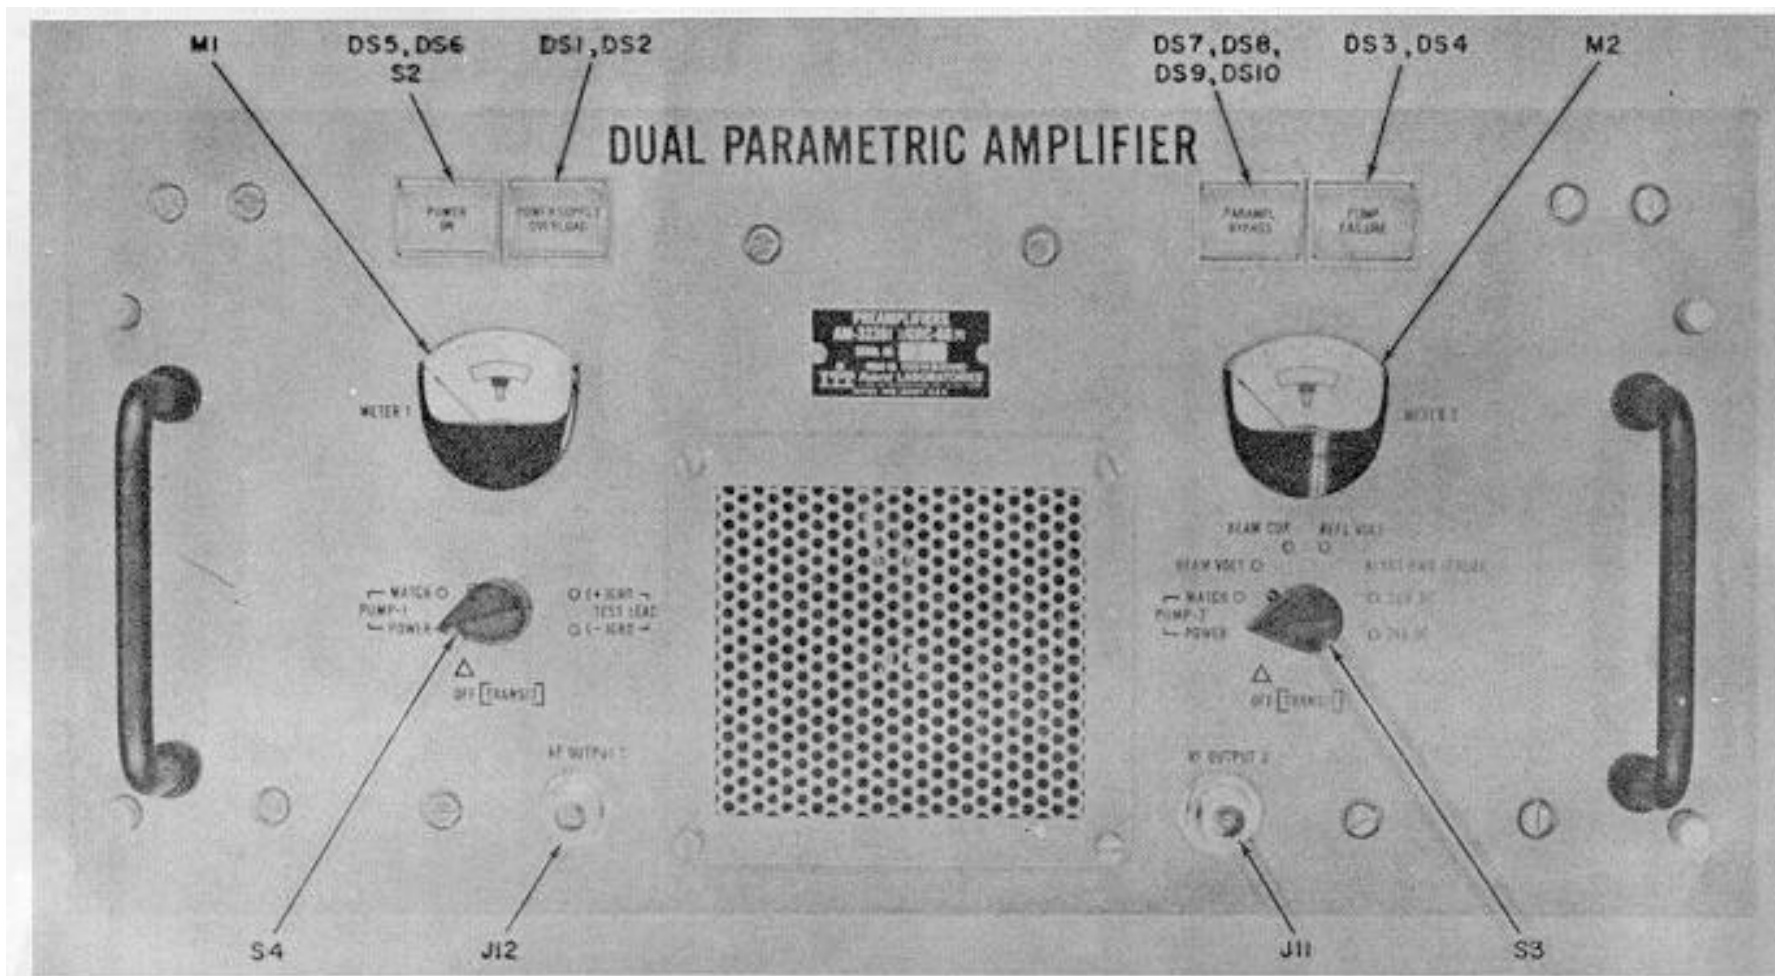
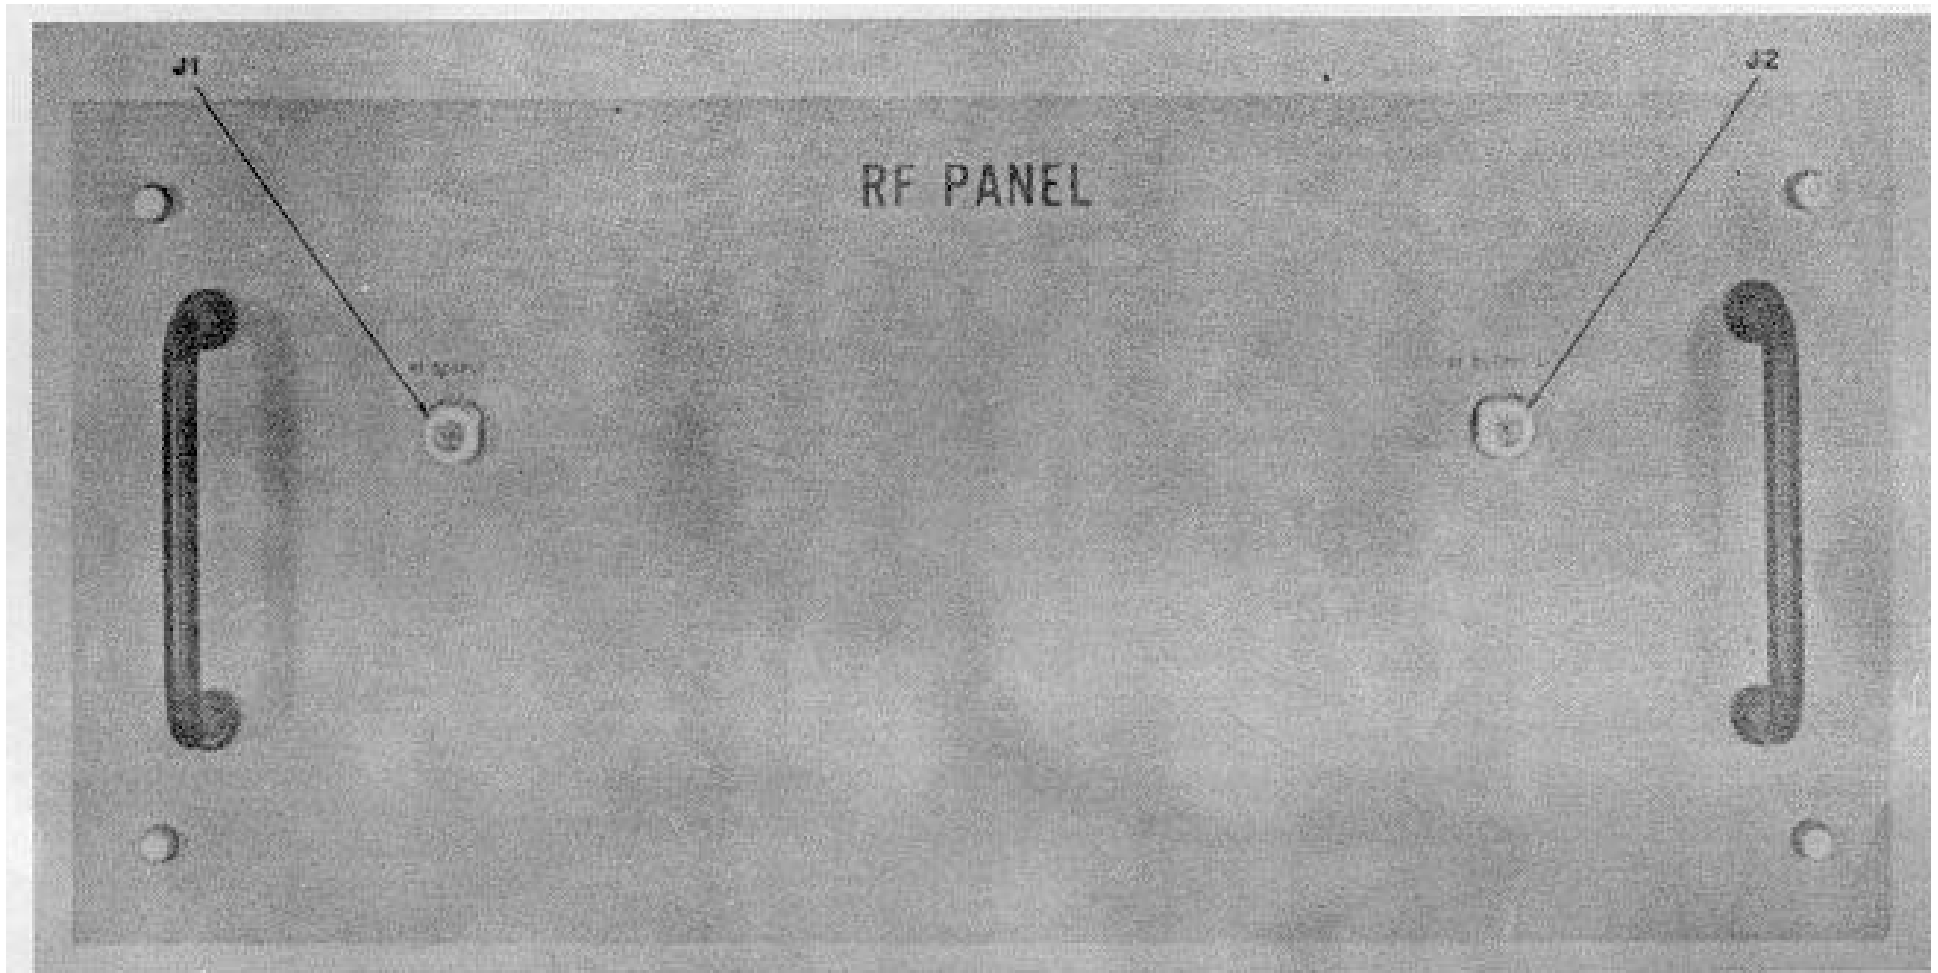
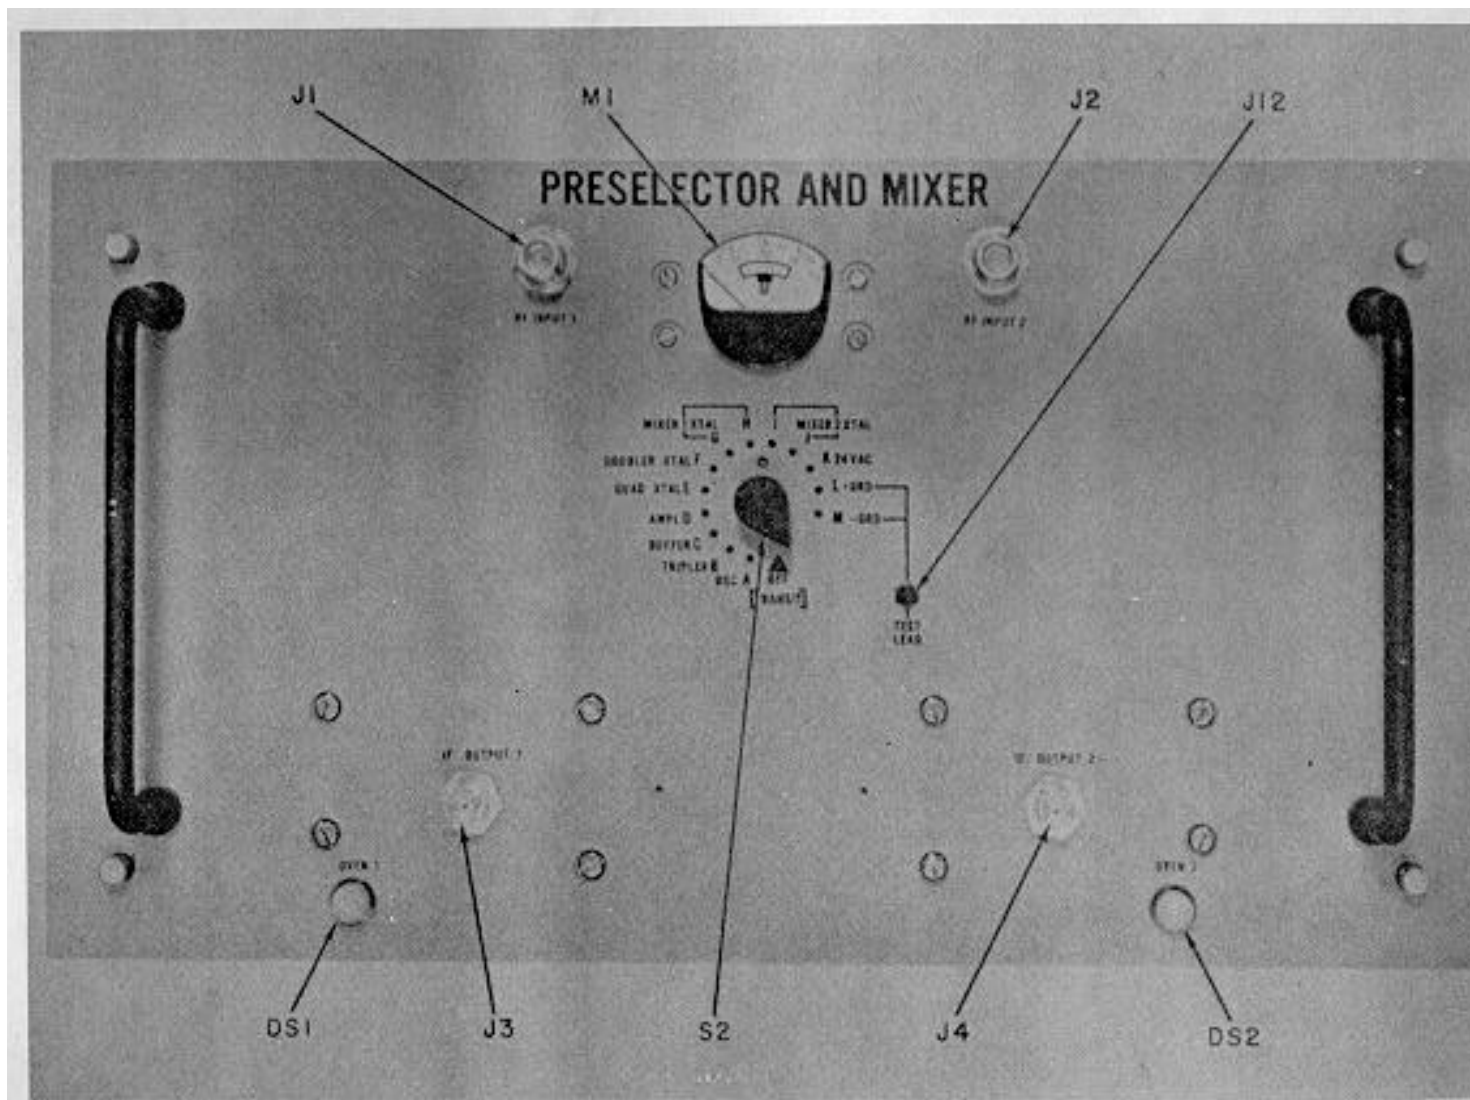
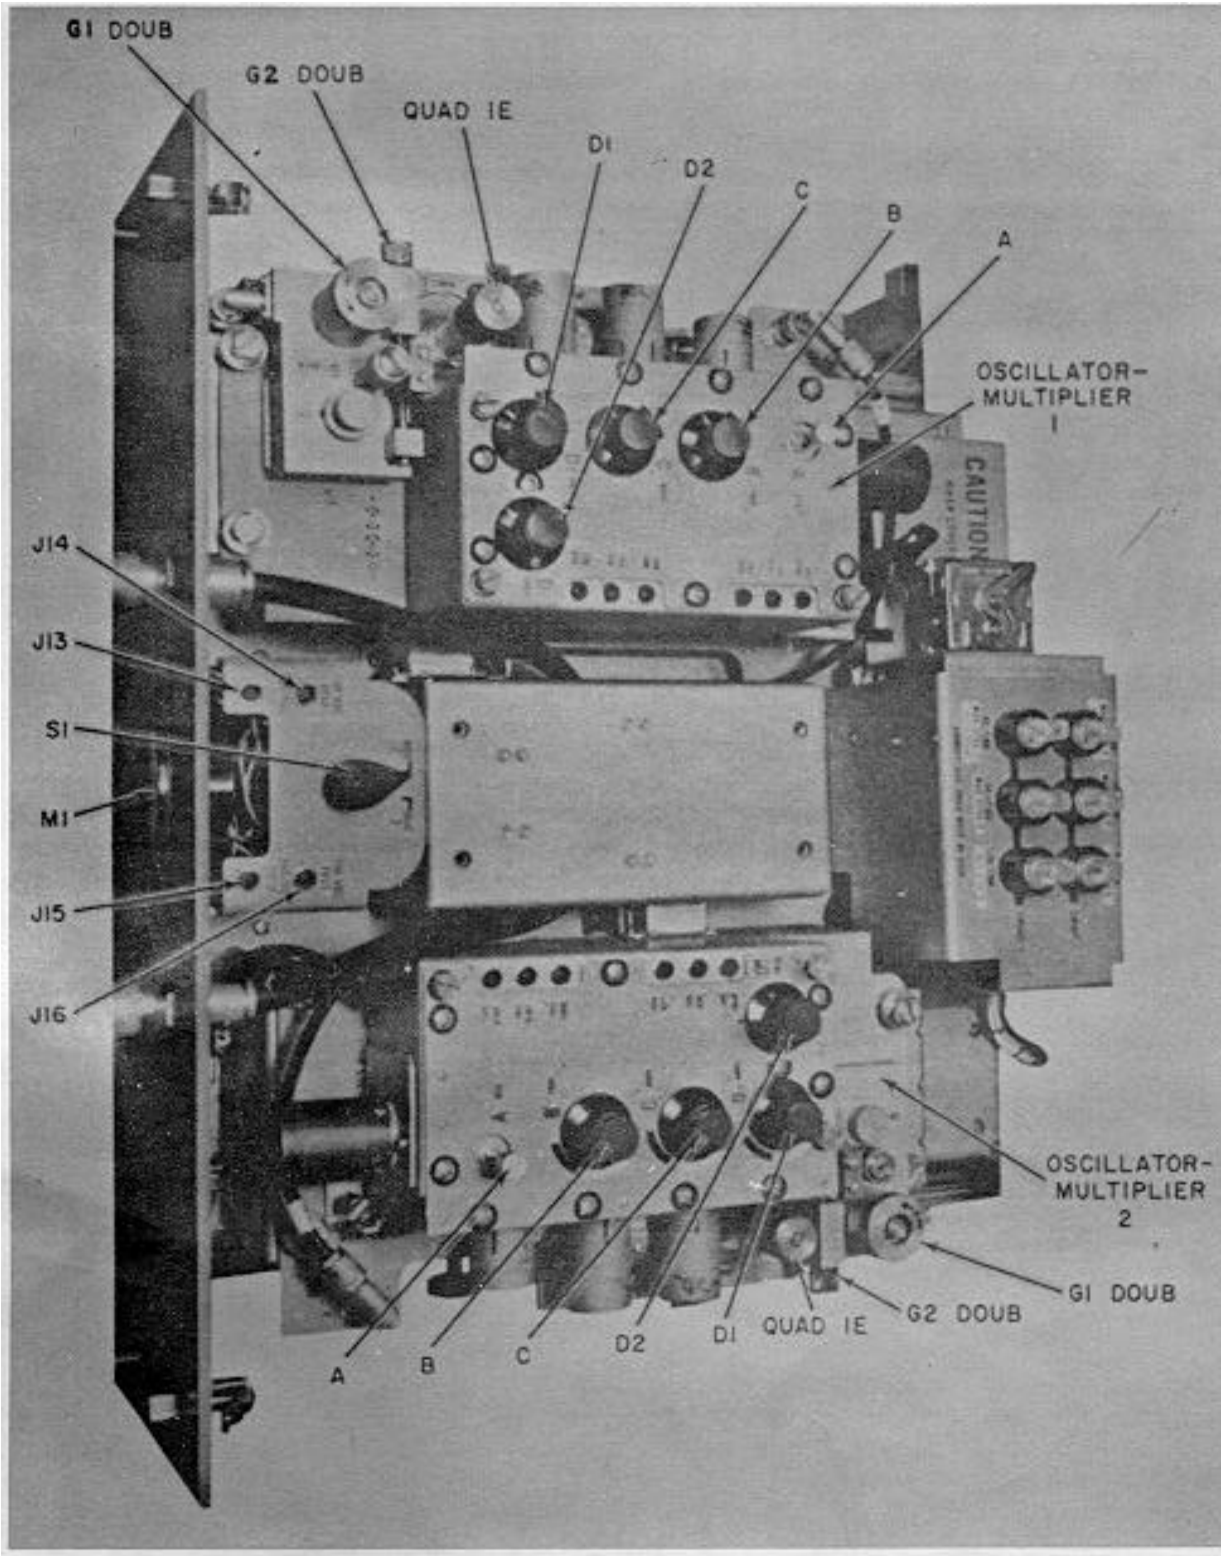

Figure 2-5. Dual Parametric Amplifier Drawer (NUS 6580-2) Front Panel
Figure 2-7. RF Panel, Front View
Figure 2-8. Preselector and Mixer Drawer, Front Panel
Figure 2-13. Preselector and Mixer Drawer, Single Conversion, Top View
- a. On receiver A, connect RF OUTPUT 1 (J12) and RF OUTPUT 2 (J11) connectors of Dual Parametric Amplifier drawer (figure 2-5 or 2-6) or RF Panel (J1, J2 of figure 2-7) to RF INPUT 1 (J1) and RF INPUT 2 (J2) connectors on front panel of Preselector and Mixer drawer (figure 2-8) with RG-9B/U cables W4 and W2, respectively.
5. OVEN 1 and OVEN 2 (single conversion receivers only) lamps DS1 and DS2 on Preselector and Mixer drawer (figure 2-8) on.
- f. Successively connect jumper between the meter TEST LEAD jack J12 (figure 2-8) and the following test points on the Preselector and Mixer drawer subpanel (figure 2-13).
- k. After a 15-minute warmup period, successively rotate meter switch S3 (figure 2-5 or 2-6) to BEAM VOLT, BEAM CUR, REFL VOLT, 24 VAC, and 24 VDC positions. Meter M2 should indicate 50 ± 10 for each switch position.
5. OVEN 1 and OVEN 2 lamps lit on Preselector and Mixer drawer front panel (figure 2-8).